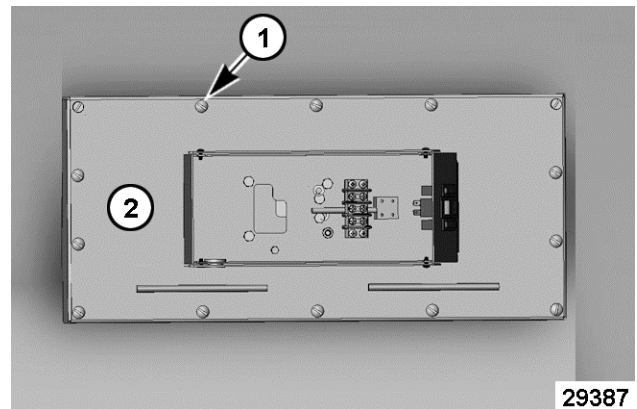

Fig. 45
4. Remove 12 screw (1, Fig. 45) securing platen cover assembly (2, Fig. 45) to clamshell assembly.